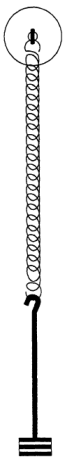

Fig. 2
- Load the weight holder with four 10 g slotted weights (Fig. 2).